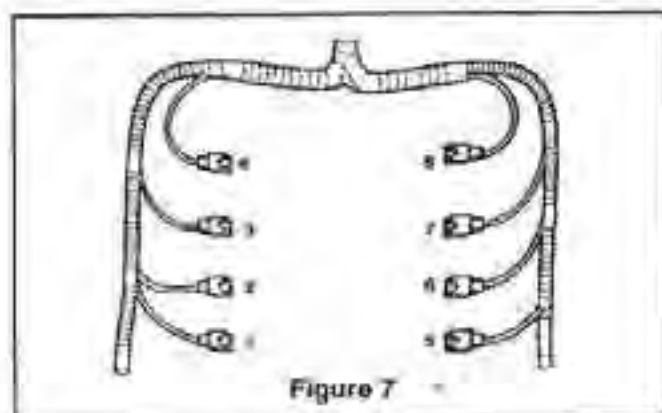

Figure 7
- 8.7 The front, two-pin connector on the passenger side is the number one fuel injector connector. Connect all fuel injectors at this time. (See Figure 7)